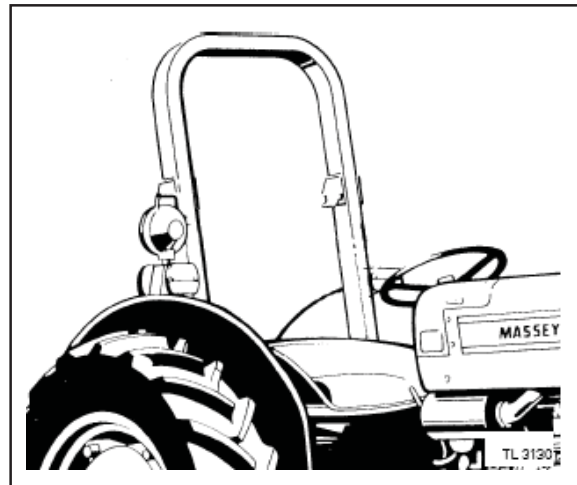

Fig. 3
A Roll Over Protective Structure (ROPS) and seat belt is fitted as standard equipment to the footstep tractor at the time of factory assembly. If the ROPS was removed by the original purchaser or has been removed, it is recommended that you equip your tractor with a Roll Over Protective Structure and a seat belt. ROPS are effective in reducing injuries during overturn accidents. Overturning a tractor without ROPS can result in serious injury or death (Fig. 3).
- \*Check ROPS and seat belt for damage. A damaged ROPS or seat belt (Fig. 3) **MUST** be replaced.